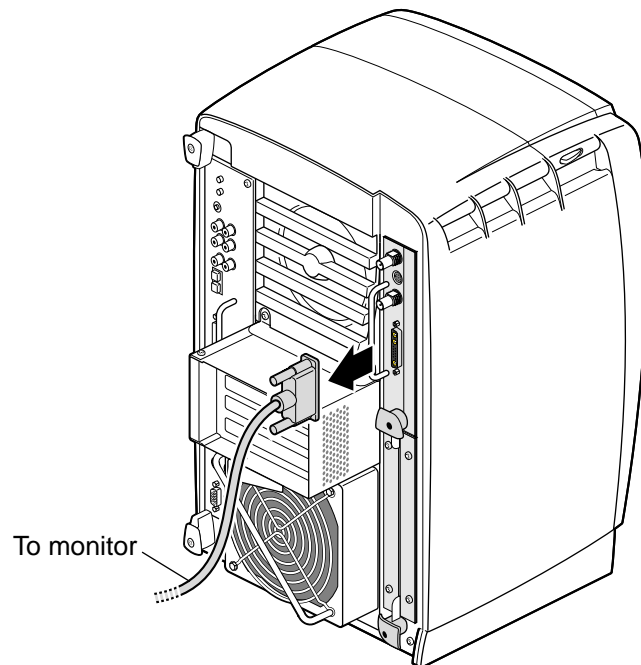

Figure 1-3 Removing the Monitor Cable
5. Remove all the cables from the XIO Tri-Module, as shown in Figure 1-3 (only one cable is shown here).